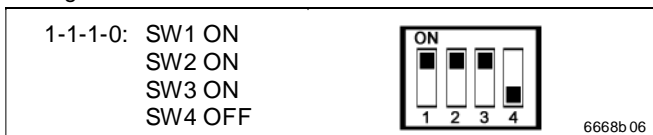

Fig. 16a DIP switch – configuration mode
- Set the DIP switches 12 (see view Fig. 2) as shown in Fig. 16a: